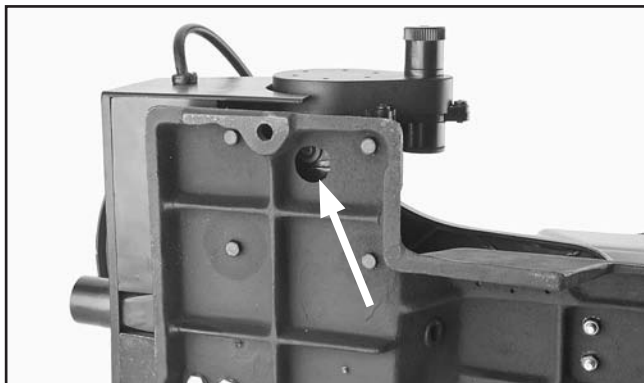

Figure 37. Lower motor brush location.
4. Remove the lower brush cap and motor brush, accessing them through a hole in the bottom of the base (see **Figure 37**).